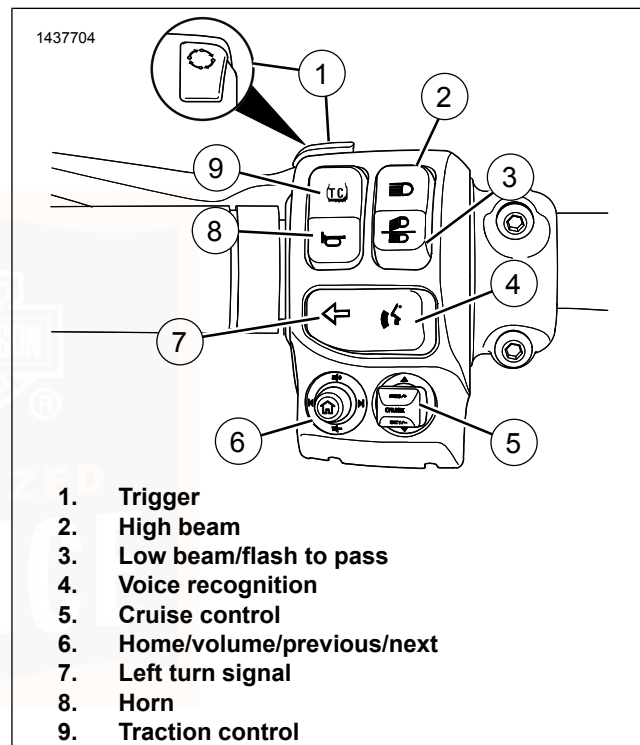

Figure 31. Left Hand Switch Module (typical)
See Figure 31. **Vehicle off:** Press the trigger switch (1) to display the accumulated mileage in the odometer.
See Figure 31. Press the high beam switch (2) to activate the high beam. The (blue) high beam indicator lamp is lit when the high beam is on. Refer to Table 27.
Low beam: See Figure 31. Press the bottom of the switch to (3) activate the low beam.
See Figure 31. The voice recognition switch (4) activates the voice recognition features on equipped vehicles. With a headset connected, press the voice command switch. The radio shows a list of available commands. Speak the desired command into the headset microphone. See the BOOM! BOX OWNER'S MANUAL.
See Figure 31. The CRUISE/SET/RESUME switch (5) automatically regulates the speed of the vehicle. See Operation > Cruise Control (Page 105) for detailed operation. Refer to Table 27
See Figure 31. The HOME/VOLUME/PREVIOUS/NEXT (6) five-way switch operates radio features on equipped vehicles. See the BOOM! BOX OWNER'S MANUAL.
Activate: See Figure 31. Press the left turn signal switch (7) to activate the left turn signal. Refer to Table 27.
See Figure 31. The horn is operated by pressing the horn switch (8). The horn can be activated for up to 10 seconds at a time. If the horn switch is held for a longer period, the horn automatically deactivates. Refer to Table 27.
See Figure 31. The traction control switch (9) activates and deactivates the traction control system. Refer to Table 27.
The trigger switch is located on the front of the left hand control. See Figure 31.